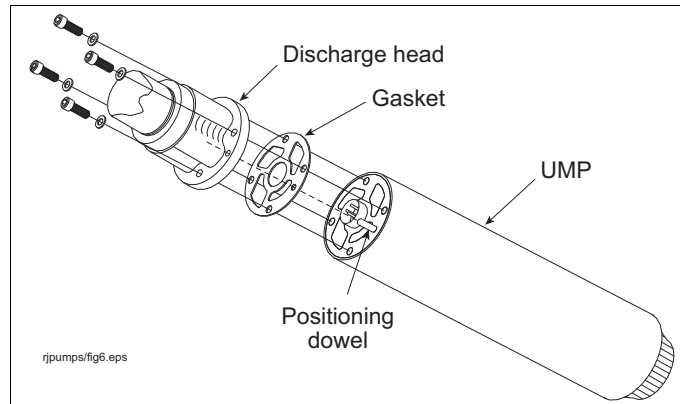

Figure 27. UMP Bolts And Gasket
6. Remove the old UMP by removing the four bolts holding the discharge head as shown in Figure 27. Discard the old gasket and fasteners.
6. Remove the UMP by removing the four bolts holding the discharge head as shown in Figure 27 on page 32. Discard the old gasket and fasteners.